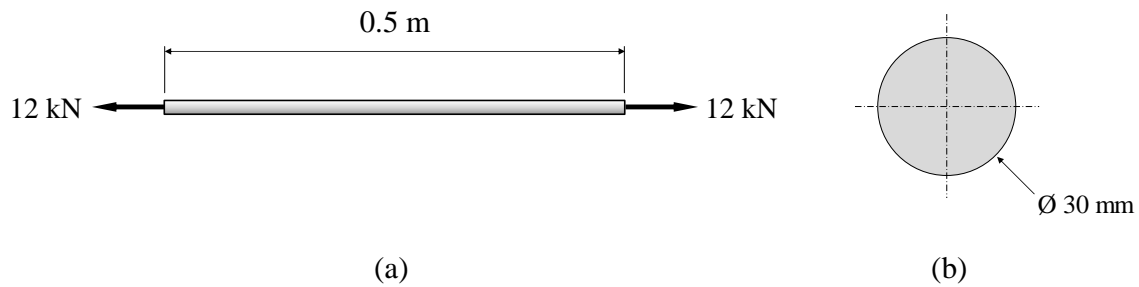

Figure 1: A plastic rod loaded in tension.
- a) A plastic rod of solid circular cross-section with diameter 30 mm and length 0.5 m is subjected to a tensile load of 12 kN as shown in Figure 1. The rod is made of PMMA (polymethyl methacrylate, or 'acrylic') with a Young's modulus of 3.1 GPa. Calculate the elongation  $e_a$  of the rod.